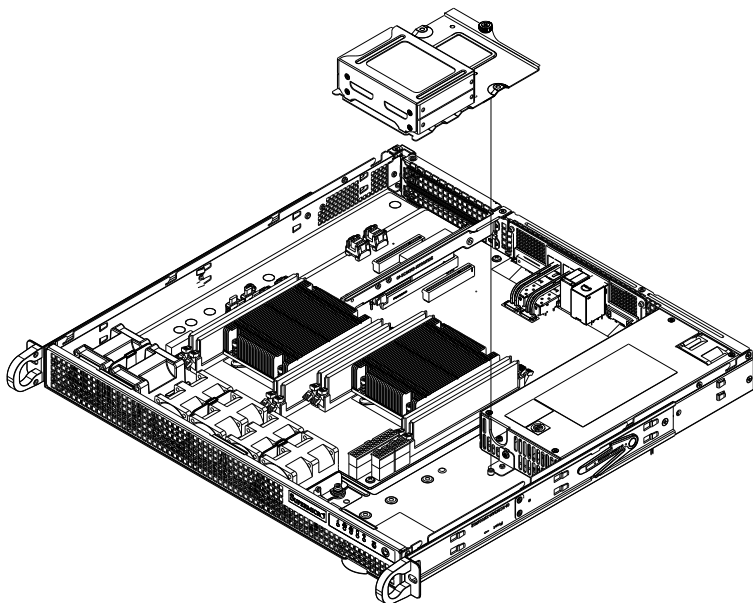

Figure 6-5. Securing the HDD Tray to the Chassis Floor
3. Secure the HDD tray to the chassis floor. (Figure 6-5)